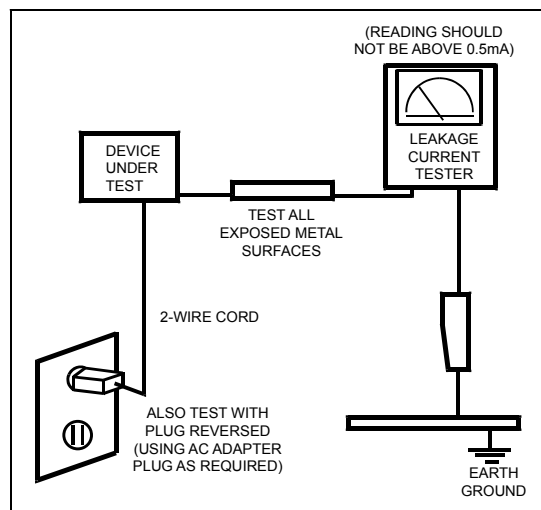

FIGURE 1. Leakage current test circuit
3. Perform a leakage current test (see Figure 1).